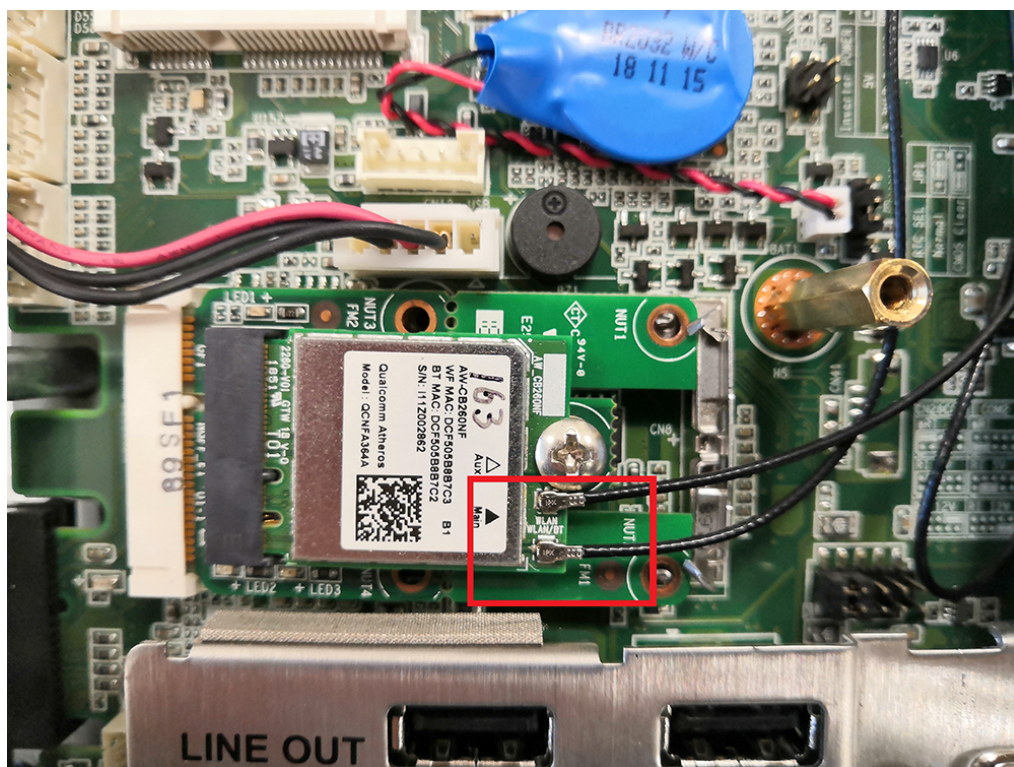

Figure 2.25
5. Secure the assembled antenna holder to the top of the panel PC. Then connect the cables to the wireless LAN card (see Fig. 2.25).